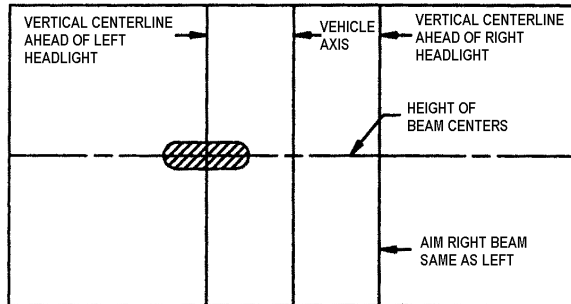

FIGURE 31: HIGH-INTENSITY ZONE (SHADED AREA) OF A PROPERLY AIMED UPPER BEAM ON THE AIMING SCREEN 7.6 M (25FT) IN FRONT OF VEHICLE 06503
5. High beam headlights are aimed so that the center of the high-intensity zone is located at the horizontal and straight ahead vertically (Fig. 31).